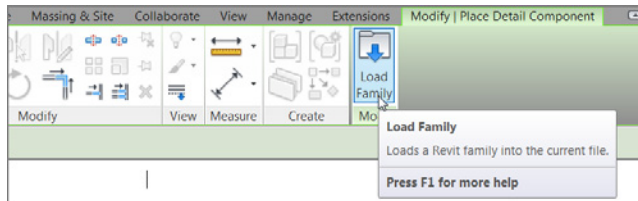

FIGURE 12.4: The Load Family button on the Mode panel of the Modify | Place Detail Component tab
2. On the Detail panel of the Annotate tab, click Component > Detail Component, and then click the Load Family button as shown in Figure 12.4.